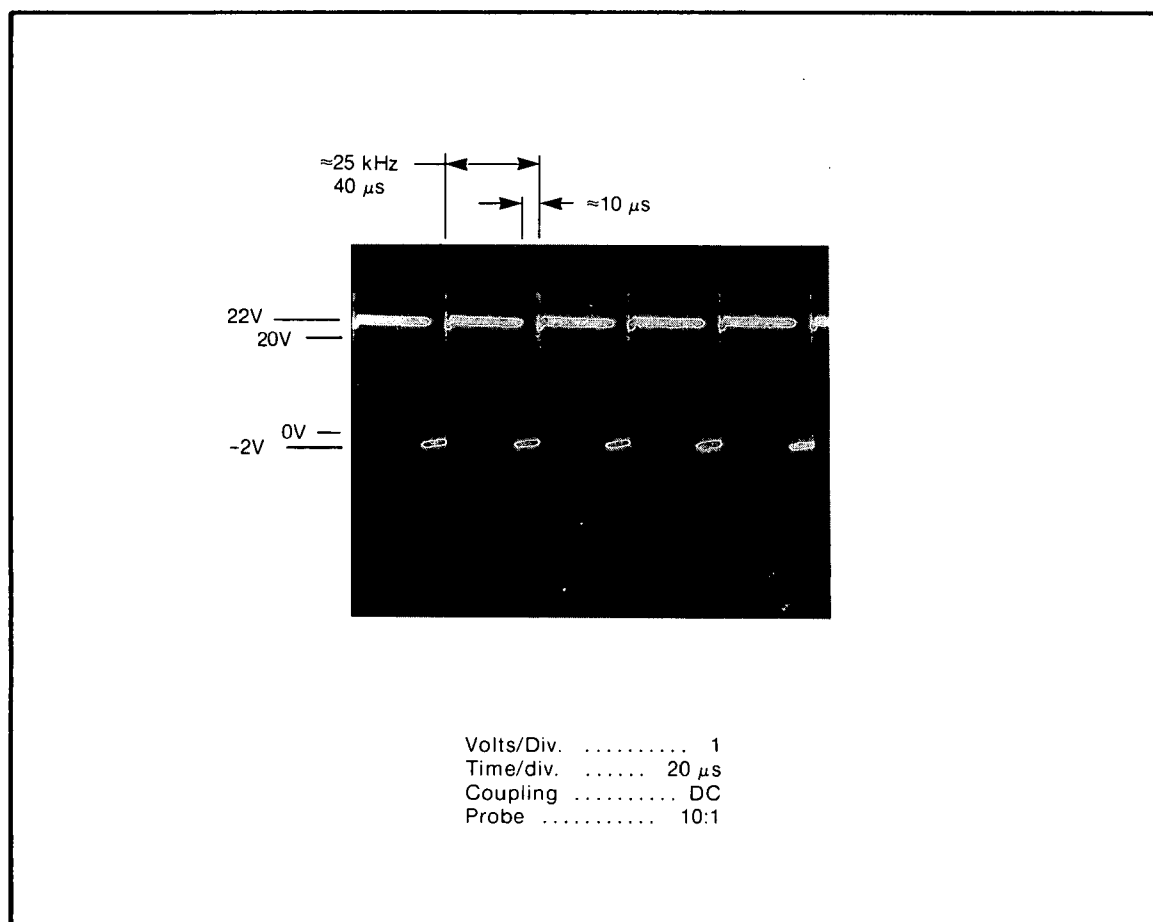

Figure 8-17. A1U25 Switching Output
- a. Insure that the line voltage programming card is properly inserted for the intended line voltage. This card is located beneath the line fuse in the A7 Line Module. Hold the card so that proper voltage range can be read normally and place the top of the card first into the instrument. See *Figure 8-17*.
8-291. To check the operation of U25, observe the pulsed output on pin 8. It should be approximately a 10-microsecond pulse train, at a 25 kHz rate, with an amplitude of ≈ 20 volts p-p. Refer to the waveform in Figure 8-17.